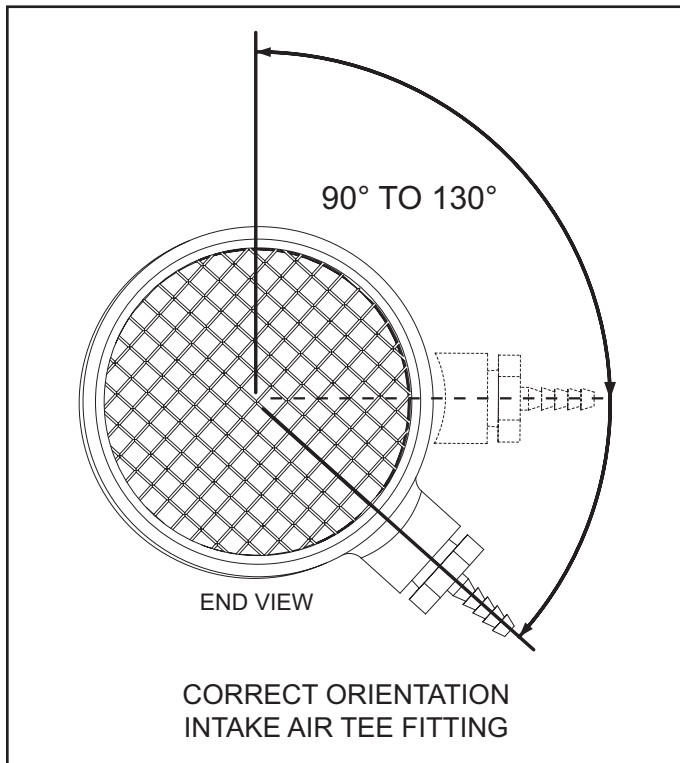

Figure 16
Ensure the hose barb installed in the Tee fitting **IS NOT** facing down towards the ground (180° - 6 o'clock position) before venting installation begins. The barb fitting must be angled between 90° and no more than 130° as shown in Figure 16. If the barb fitting is facing down, residual condensate that occasionally forms in the intake air pipe can drain into the Blocked Intake Air switch through the attached sensing tube and damage the switch. This condition can also lead to Blocked Intake Air fault conditions and associated control system lock outs.
The intake air Tee fitting is factory installed with the 1/2 inch branch and hose barb angled to the right at approximately 130° when viewed from the end, see Figure 16. The Tee fitting's 1/2 inch branch and hose barb must not be angled any lower (towards the ground) than this factory specification. Angling higher, up to a 90° position, will not adversely affect operation and is acceptable.
Inspect the angle of the Tee fitting's 1/2 inch branch and hose barb while viewing from the end of the Tee, see Figure 16. If the angle of the Tee fitting 1/2 inch branch and hose barb is lower than shown, adjustment will be necessary. To adjust the intake air Tee fitting angle follow the steps listed below.
4. Adjust the angle of the Tee fitting so that the 1/2 inch branch and hose barb are at the proper angle as shown in Figure 16.